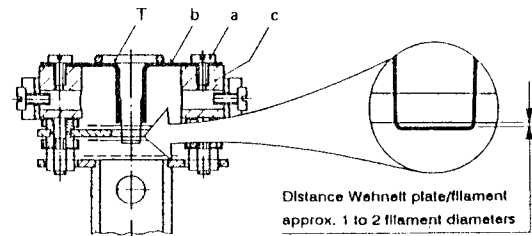

Fig. 10b
- Center the new filament to the analyzer axis and then screw it to pin (c). Carefully remove the transport protection ring (T) by cutting it off with small side cutting pliers. The filament can not be centered further by detaching one leg (b) from the pin and moving the filament with the leg into the desired position.
- Before the system is installed, check the position of the filament relative to the Wehnelt plate and if necessary correct it by lightly pressing against the legs (b) (Fig. 10b).
The filament should protrude from the Wehnelt plate in such a way that the distance to the plate is approx. 1 to 2 filament diameters (approx. 0.3 mm) (Fig. 10b).